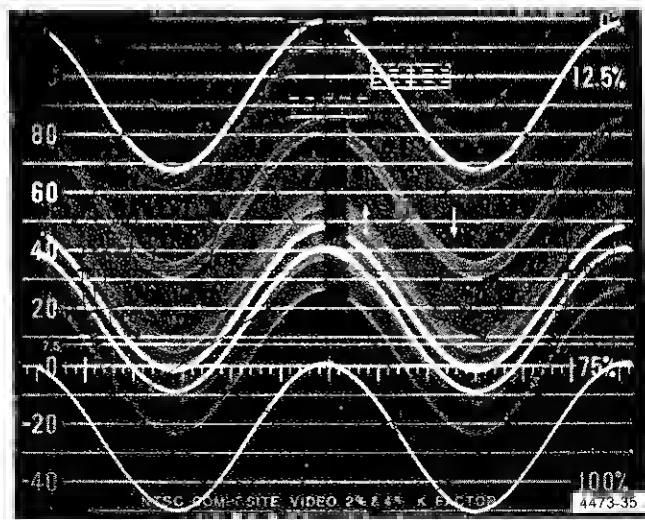

Fig. 5-3. DC Restorer 60 Hz hum response.
c. Display the Color Bar with the 2FLD SWEEP. Connect the output of a 60-Hz sine wave generator to the opposite side of the CH-B LOOP-THRU with a 10X, 75 Ω attenuator. Disable the DC Restorer. Adjust the amplitude of the sine wave to displace the sync tips by 50 IRE p-p. Select the DC Restorer. See Fig. 5-3.